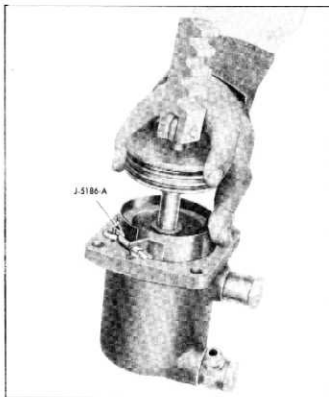

Fig. 37—Installing Piston in Cylinder
6. Install piston and adapter assembly into cylinder using Ring Compressor, J-5186-A, to compress the piston rings (fig. 37). It may be necessary to tap adapter with a soft mallet until its flange is flush with cylinder face.